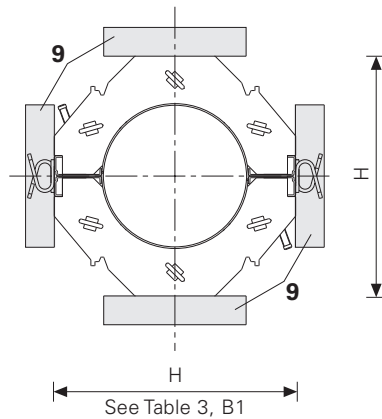

Fig. A4.01
- The dimension "H" and the straight outside edge allow easier attachment of locating boards (9). (Fig. A4.01)